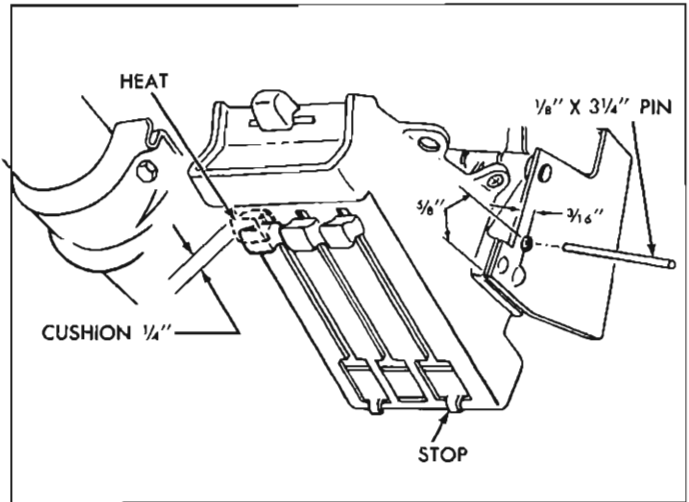

Fig. 11-4—Control Assembly
- a. Pull the HEAT and AIR knobs into the fully up position and insert the pin (fig. 11-4) in place in the control assembly.